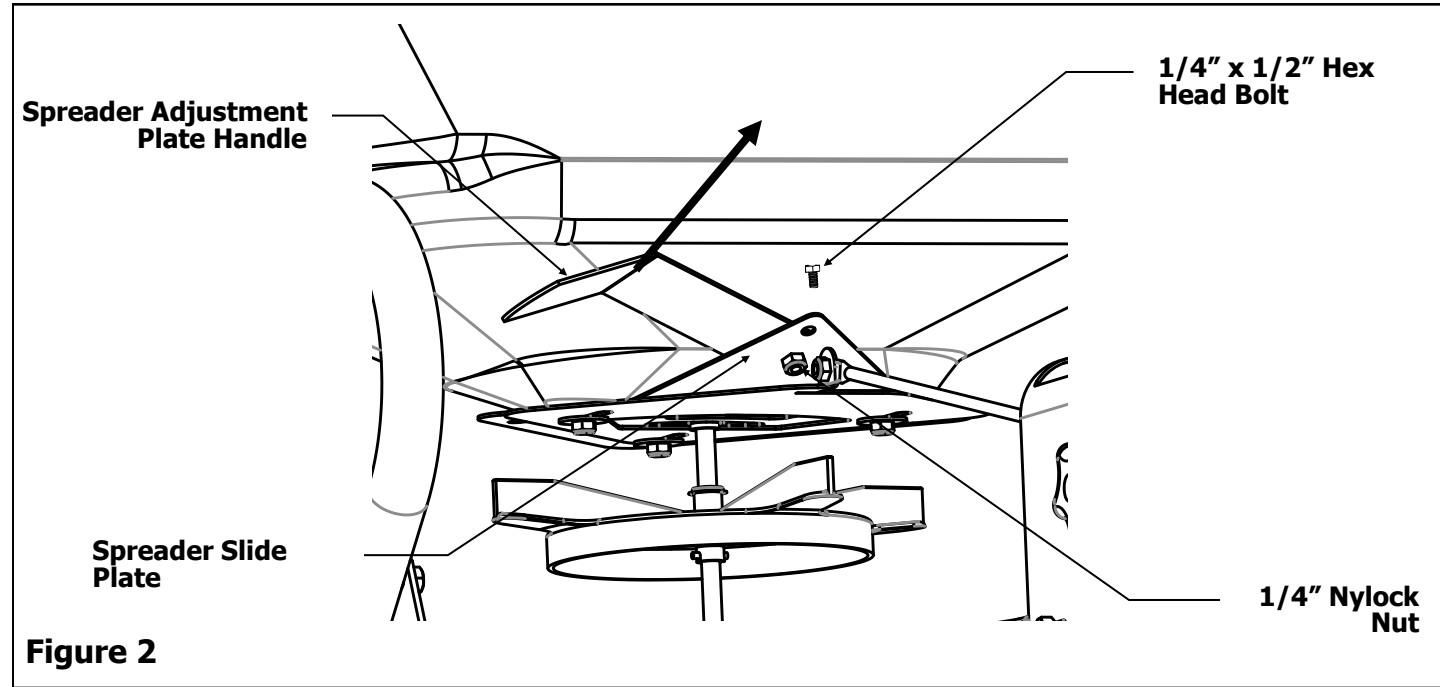

Figure 2
2. Remove the front 1/4" x 1/2" Hex Head Bolts and 1/4" Nylock Nut from the Spreader Slide Plate, turn the Spreader Adjustment Handle until both holes are aligned. Re-insert the Bolt and attach the nut. See Figure 2.